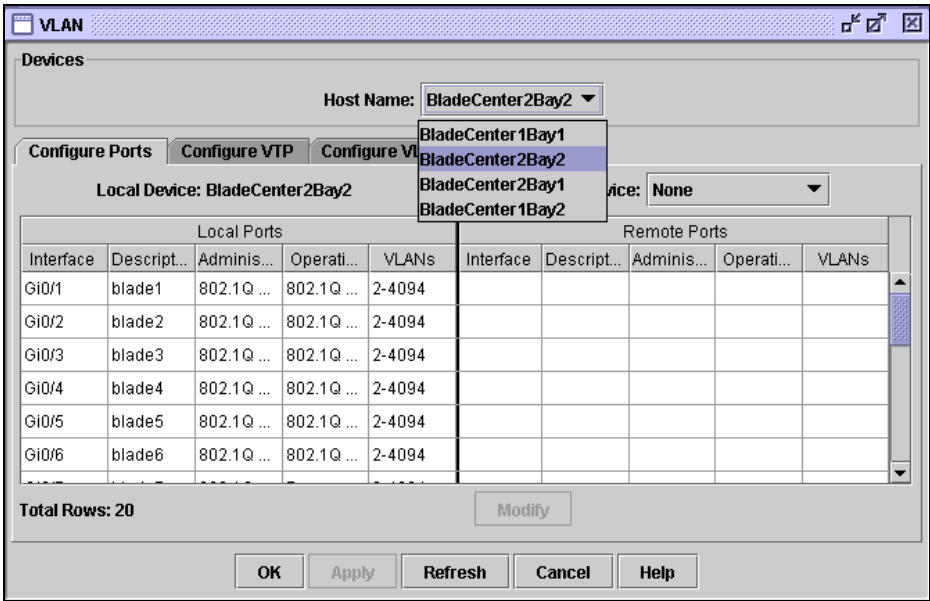

Figure 5-34 VLAN Devices window
- Any device in the cluster can now be managed either by clicking the switch graphic and then the menu bar task, or by choosing the task on the menu bar and selecting the device's host name (Figure 5-34). In our example, we chose VLAN.